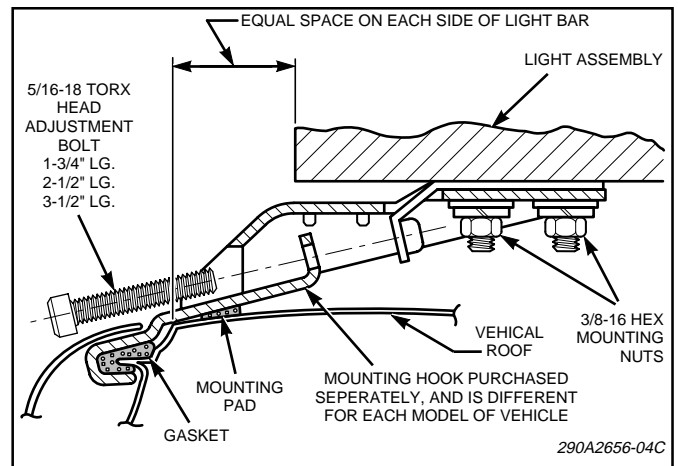

Figure 4.
B. Adjust both mounting foot assemblies in or out until the rubber mounting pads rest near the edge of the roof or gutter where the roof is the most rigid. See figure 4.
C. See figure 4. Center the unit so that the end of the Light Assembly and edge of the roof are equally spaced on each side of the vehicle. Tighten the previously installed 3/8-16 hex nuts (two on each mounting foot).
E. See figure 4. Insert the separately purchased mounting hook into the opening in the center of the mounting bracket. Install the 1-3/4", 2-1/2", or 3-1/2" stainless steel adjusting bolt (finger tight). Ensure that the hook does not interfere with the door or glass. Repeat on the other side of the light assembly.